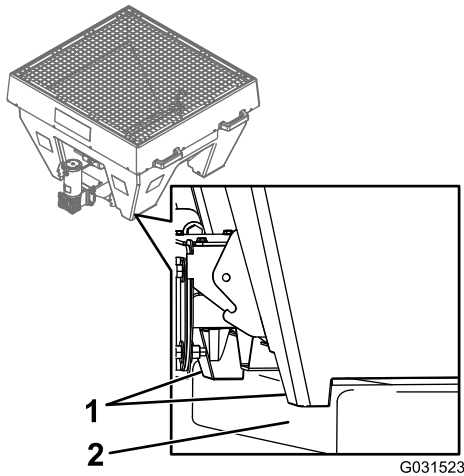

Figure 5
3. Slide the spreader toward the vehicle cab until the stop feet hit the utility vehicle bed (Figure 5).